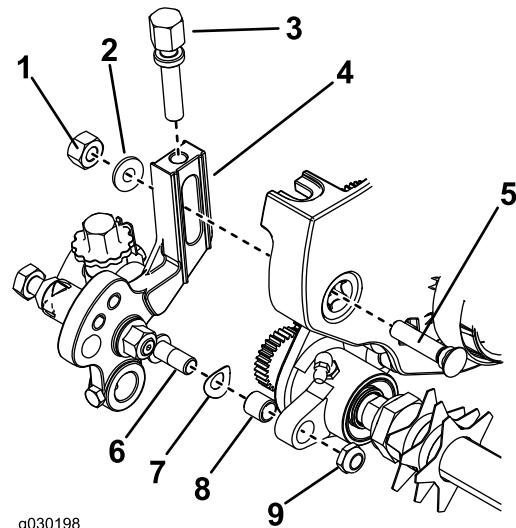

Figure 13
- 1. Install the bushing in the hole in the right groomer-drive assembly (Figure 13).
- 2. Thread the height-of-cut adjusting screw into the top of the right adjuster-arm assembly (Figure 13).
- 3. Install the spring washer onto the rod end of the height-of-cut arm assembly (Figure 13).
- 4. Install the right adjuster-arm assembly to the cutting unit side plate using a plow bolt, nut, and special washer (Figure 13).
- 5. Secure the adjuster-arm assembly rod end to the groomer drive assembly with the locknut (Figure 13).
7. Install the bushing in the hole in the left groomer-drive assembly (Figure 13)
8. Thread the height-of-cut adjusting screw into the top of the left adjuster-arm assembly (Figure 13).
10. Install the spring washer onto the rod end of the left height-of-cut arm assembly (Figure 13)
11. Install the left adjuster-arm assembly to the cutting unit side plate using a plow bolt, nut, and new washer (Figure 13).
12. Secure the adjuster-arm assembly rod end to the groomer drive assembly with a locknut (Figure 13).